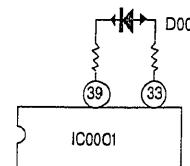

Fig. 1-4-1-1.
1. Connect the jig D0015 between IC0001 pin ③③ and pin ③⑨. See Fig. 1-4-1-1.